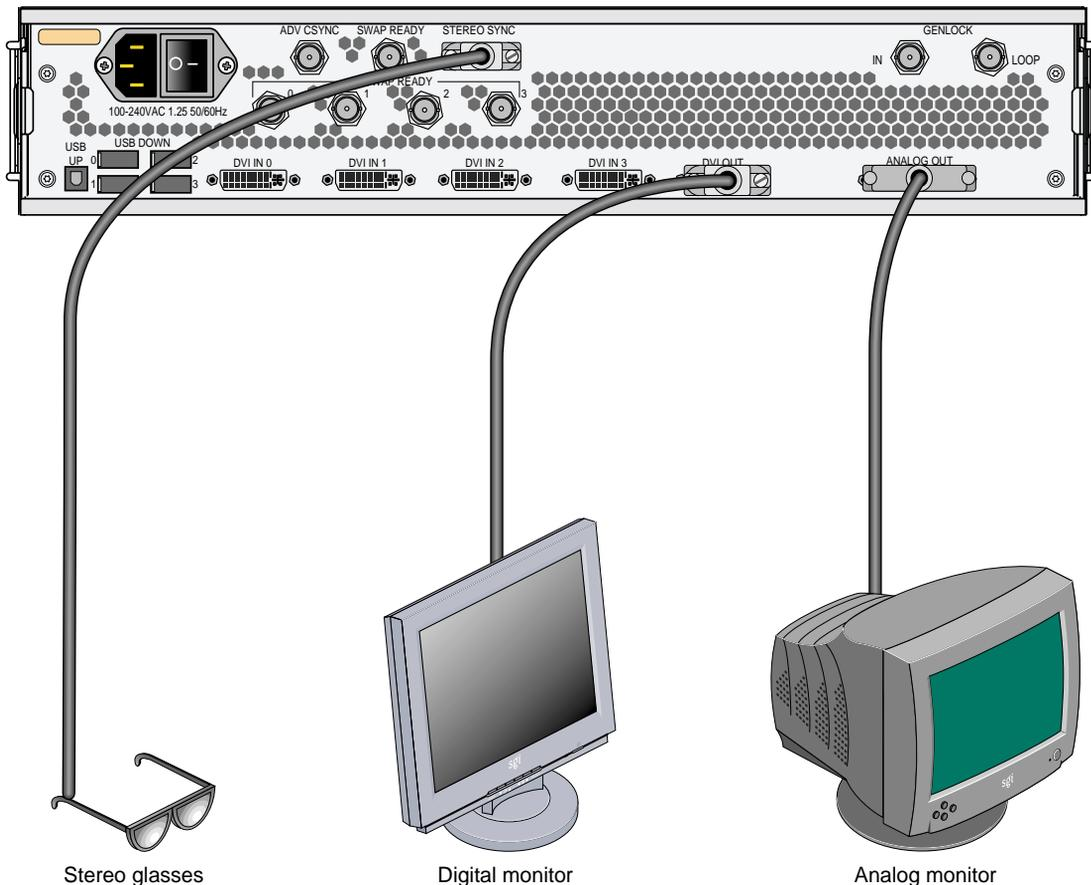

Figure 2-7 Example Connections to Digital and Analog Display Devices
8. As is applicable to your cabling installation, connect the following items to the compositor (as shown in Figure 2-7):
11. Press the compositor power switch to the ON (I) position.